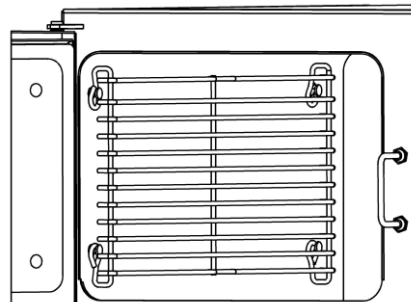

Figure 3-5
1. Refer to Figure 3-5. Each rack has four loops: two top, and two bottom. Hold the slide rack so the ends of the hanger loops are towards compartment wall, as shown in Figure 3-5.